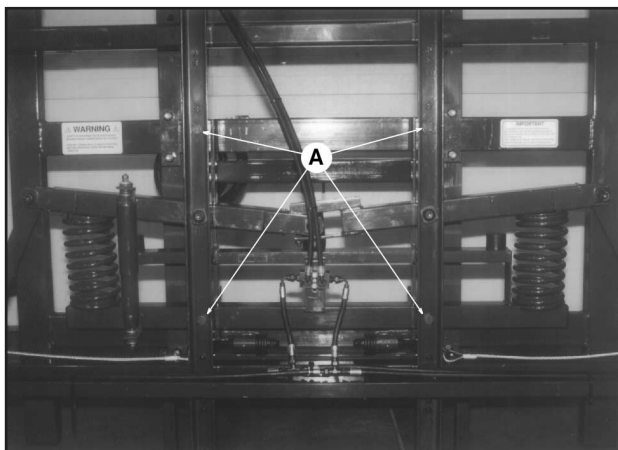

Fig. 42
4. If boom does not return to horizontal, loosen each adjustment cap screw (A) 1/2 turn and check again. (Refer to fig. 42)